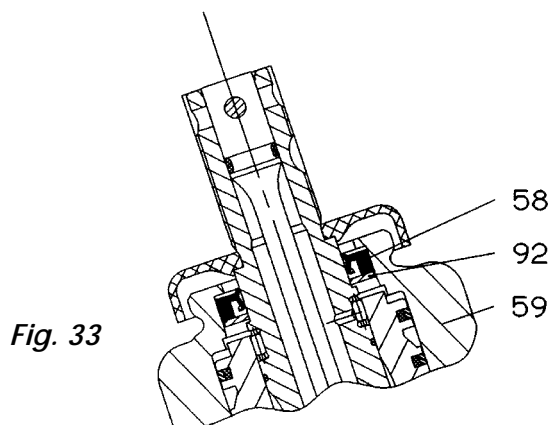

Fig. 33
Alignment of shaft seal (58) see *Fig. 33*.